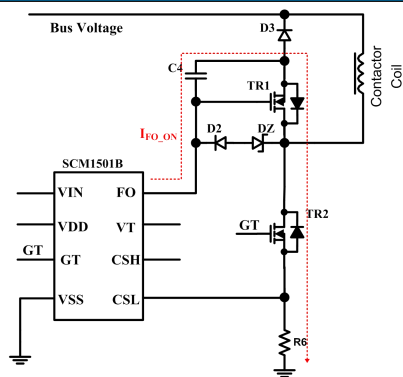

Fig. 6 Start-up circuit schematic
(1) Figure 6, the working principle of the chip startup, see the working principle diagram of the startup process. After the chip is started, the GT will output a high level, and the FO will continue to output a current-driven MOS transistor TR1. FO charges the gate of MOS transistor TR1, and the current I_{FO_ON} path is as follows: When MOS transistor TR2 is turned on, the FO pin charges capacitor C4 through the body diode of MOS transistor TR1 and MOS transistor TR2. Each time the MOS transistor TR2 is turned on, the FO pin will charge the capacitor C4. Therefore, in the Pick-up and Holding stages, the MOS transistor TR1 is turned on all time.